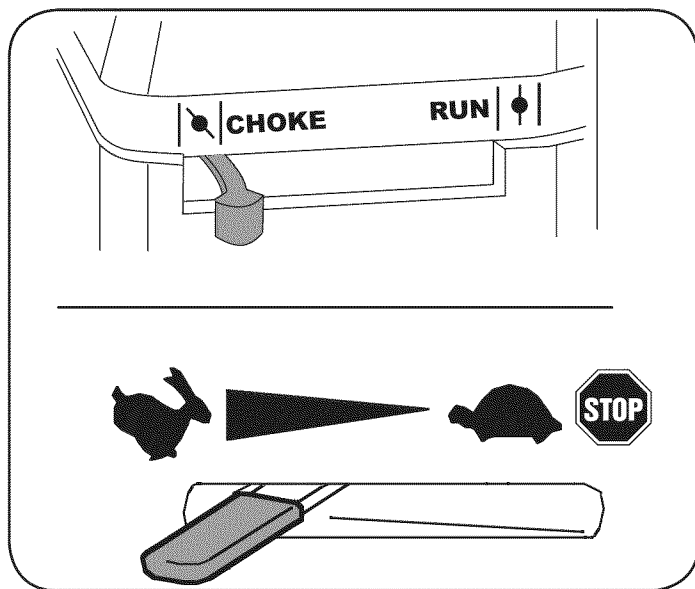

Figure 8
6. Move the choke lever on the engine to CHOKE  position. (A warm engine may not require choking.) See Figure 8.
7. Move throttle control to START/RUN (Rabbit)  position. See Figure 8.